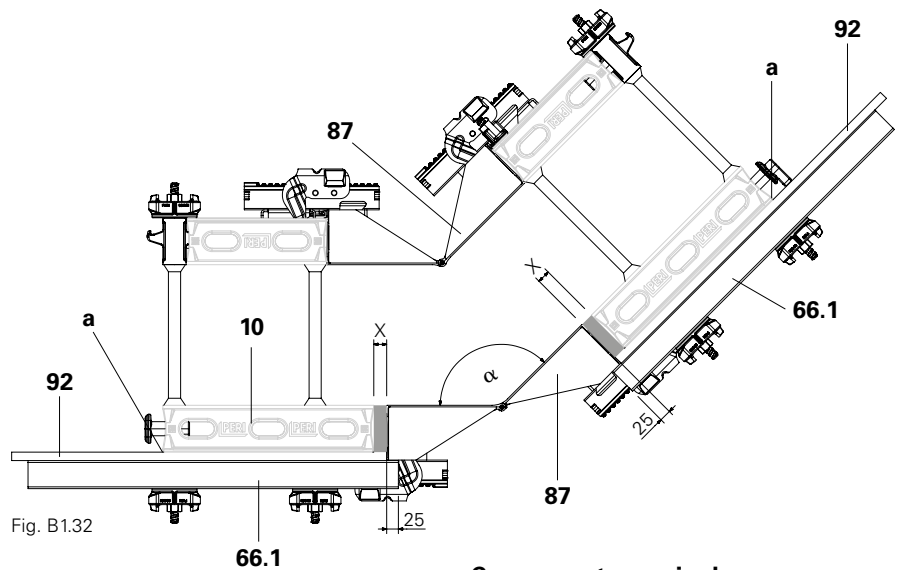

Fig. B1.32
The DOMINO DRS alignment coupler (68) is installed from bottom to top, both for external and internal corners. (Fig. B1.32)
The 18 mm multi-layer plywood sheeting Finply (92) must be installed beneath the LWR 80 (80.1) walers in order to provide both the DOMINO DGE articulated corner (87) and the DUO DP panels with the correct support. (Fig. B1.32)